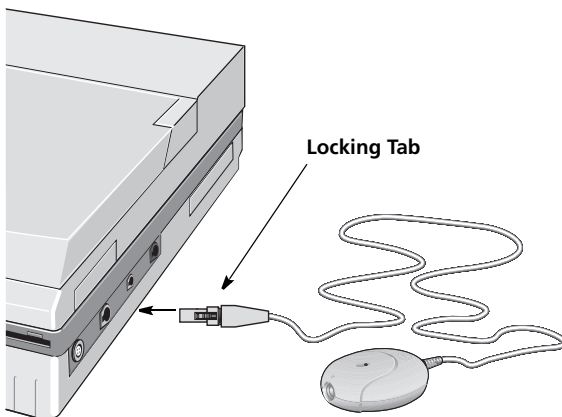

Figure 2-1. Connecting the PSA wand to the Model 3510 Programmer
1. Plug the PSA wand into the “Telemetry Wand” port on the right side of the programmer. The PSA wand plug has a locking tab to prevent accidental disconnection resulting in loss of communication (Figure 2-1).